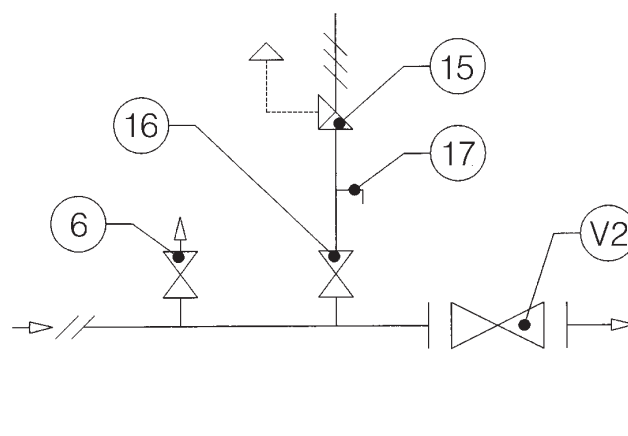

Fig. 9
3.1.2 INSTALLATION WITH ON/OFF VALVE (Fig. 9)